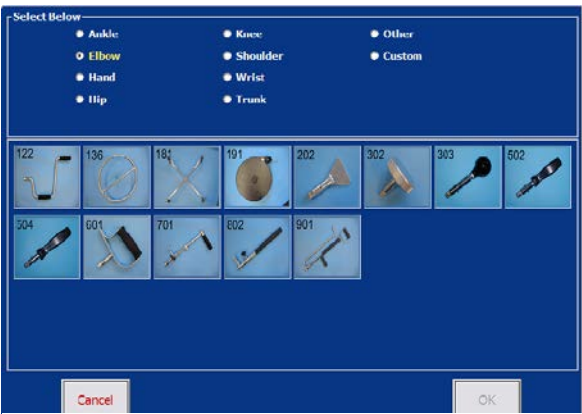

Figure 5r
- Step 5. Select the body part to receive treatment. Click the image of the attachment you intend to use for the exercise (Figure 5r).